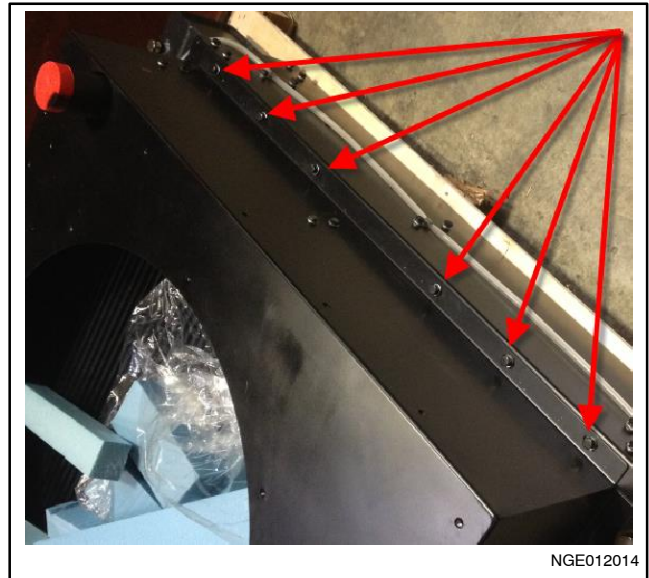
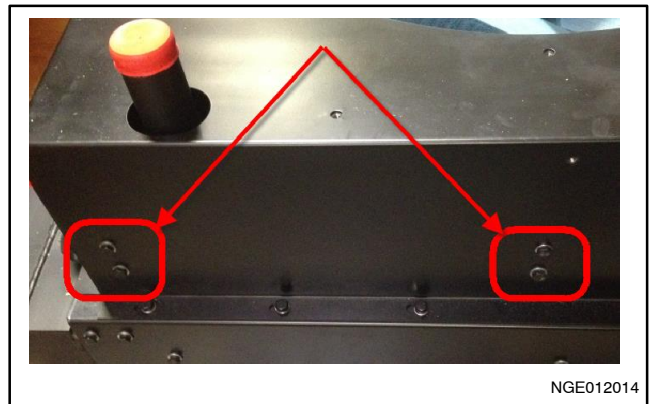

Figure 1 Radiator Fan Shroud Bolts
Figure 2 Charge Air Cooler Bolts
- 2.1 Use a torque wrench to tighten the M8, Gr 8.8 bolts to 19 Nm (14 ft. lbs.). Refer to Figure 1 and Figure 2 for bolt locations. Do not over tighten.